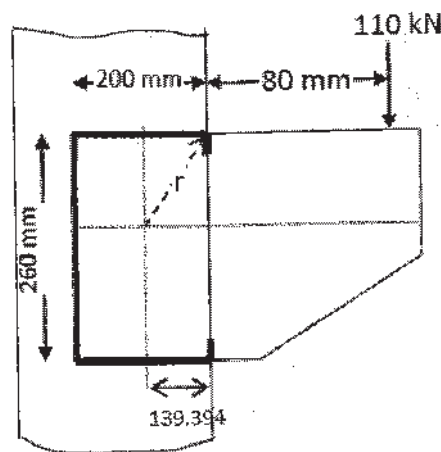

Fig. 7
- Q. 20. A bracket plate is welded to the flange of a column of section ISHB 300 @ 618 N/m as shown in Fig. 7. Calculate the size of the weld to support a load of 110 kN. Assume permissible stress in the weld as 108 MPa. 10